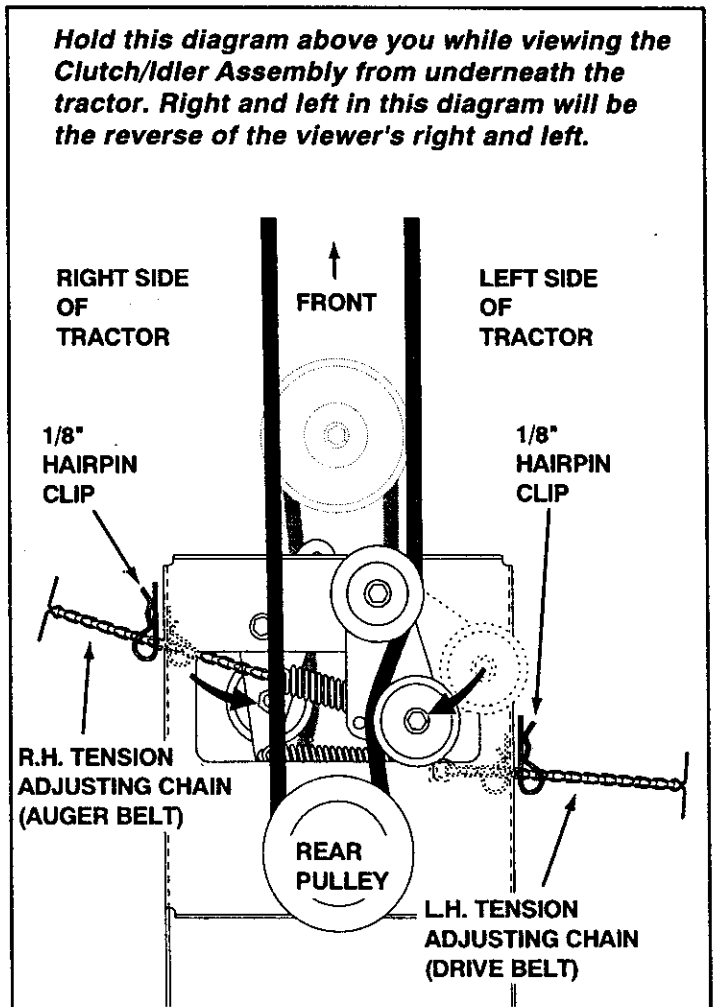

FIGURE 18
- Place the **auger** belt around the bottom rear pulley on the clutch/idler assembly and between the two pulleys on the lower idler arm. Keep the flat idler pulley to the outside of the belt. See figure 18.
- Use the R.H. tension adjusting chain to pull the flat idler pulley in against the **auger** belt. Pull the chain out as far as the inside hairpin clip will allow and then fasten the chain in place using the 1/8" hairpin clip which was removed earlier. See figure 18.
- Use the L.H. tension adjusting chain to pull the flat idler pulley in against the **drive** belt. Pull the chain out as far as the inside hairpin clip will allow and then fasten the chain in place using the 1/8" hairpin clip which was removed earlier. See figure 18.